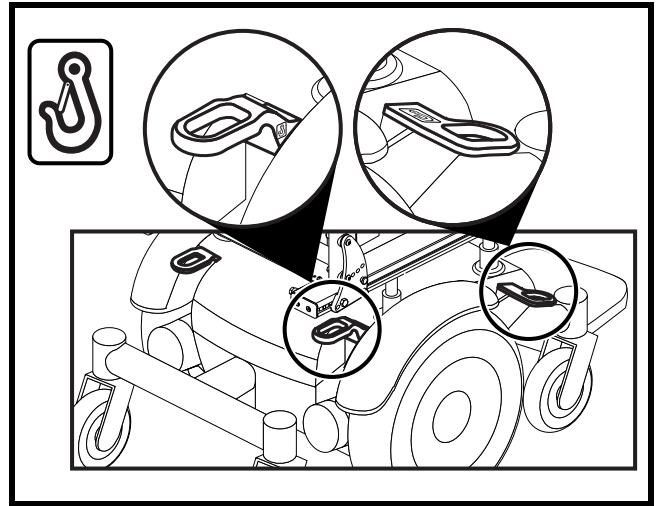

Figure 9. Transit System Securement Brackets
- Attach the four tie-down straps only to designated, labeled transit securement points indicated by anchor symbols on the power chair. **See figures 9 and 10.** Tighten the straps to sufficiently remove all slack.
- Position the anchor points for the rear tie-down straps directly behind the rear securement points on the power chair. The front tie-down straps should be anchored to floor points that are spaced wider than the power chair to provide increased stability. **See figure 9.**